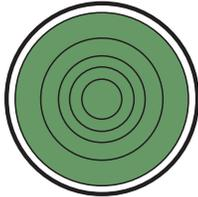

Figure 146. Main Circuit Breaker ON Lamp (ON/GREEN)
- Verify that the **Main Circuit Breaker ON lamp** (Figure 146) is illuminated (**GREEN**). This indicates that the **circuit breaker contacts are closed** and power has been sent to the load.